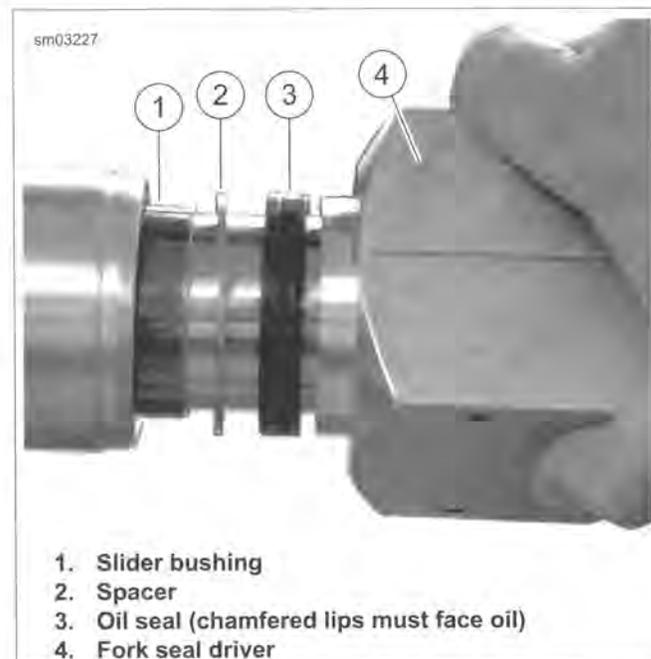

Figure 2-65. Assembled Fork Seal Driver
10. Apply LOCTITE 565 THREAD SEALANT to screw (18). Loosely install screw and **new** copper washer (17) to prevent damper tube from unexpectedly falling out. Apply pressure to spring to prevent damper tube from rotating.
12. See Figure 2-65. Using FORK OIL SEAL INSTALLER (Part No. HD-45305) like a slide hammer, drive fork oil seal down until installer contacts fork slider. Remove tool.